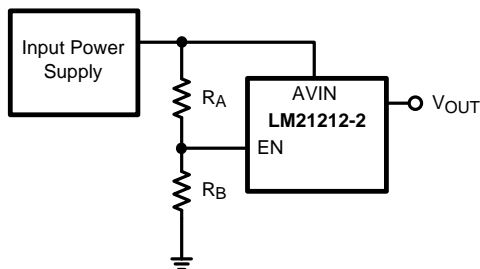

Figure 23. Enable Start-up Through V_{IN}
The LM21212-2 has a built-in undervoltage lockout protection circuit that keeps the device from switching until the input voltage reaches 2.7V (typical). The UVLO threshold has 200 mV of hysteresis that keeps the device from responding to power-on glitches during start up. If desired the turnon point of the supply can be changed by using the precision enable pin and a resistor divider network connected to VIN as shown in Figure 23 in the design guide.
The enable (EN) pin of the LM21212-2 allows the output to be toggled on and off. This pin is a precision analog input. When the voltage exceeds 1.35V, the controller will try to regulate the output voltage as long as the input voltage has exceeded the UVLO voltage of 2.70V. There is an internal current source connected to EN so if enable is not used, the device will turn on automatically. If EN is not toggled directly the device can be preprogrammed to turn on at a certain input voltage higher than the UVLO voltage. This can be done with an external resistor divider from AVIN to EN and EN to AGND as shown below in Figure 23.